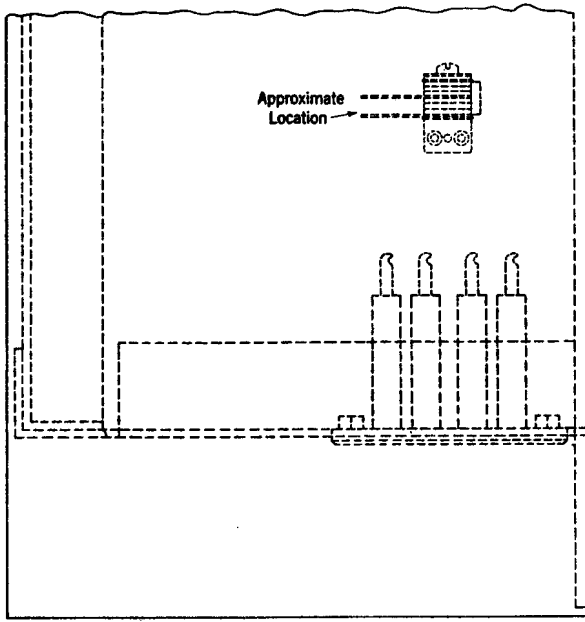

Fig. 9 - Varistor Mounted on Underside of Table Top
3.18 Using the mounting bracket as a templet, drill the underside of the table top and mount the varistor near the telephone jacks as indicated by Fig. 9.